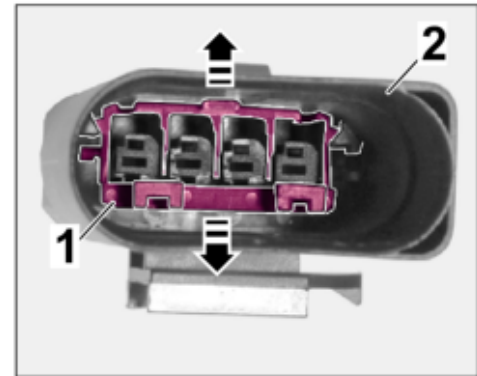

Figure 24
2.4.1 Unlocking the socket housing (4-pin, see parts list) (⇒ *Figure 24*).